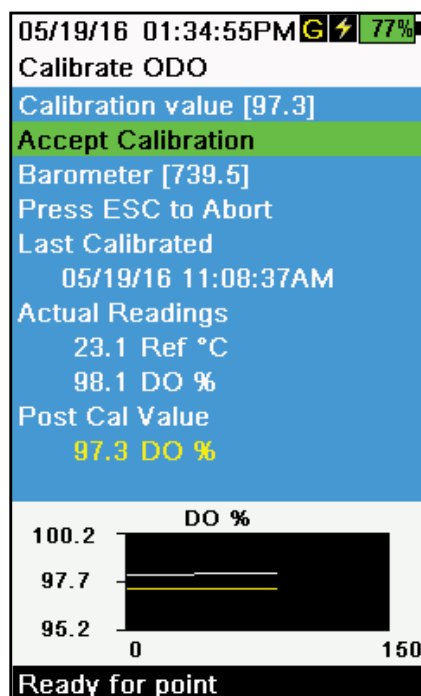

Figure 34 Calibrate DO%
6. Observe the actual measurement readings for stability (white line on graph shows no significant change for 40 seconds), then select **Accept Calibration** (Figure 34). “Calibration successful!” will be displayed in the message area.